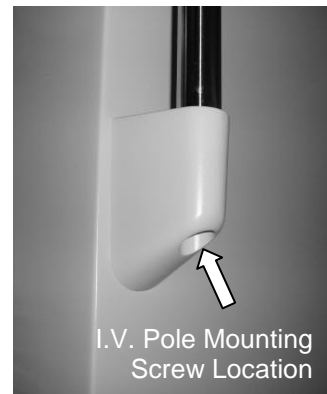

Figure 2
- 4.3 Locate and remove the screw attaching the I.V. pole to its mounting base using a 5mm Hex (Allen) Wrench. See Figure 2 for screw location.